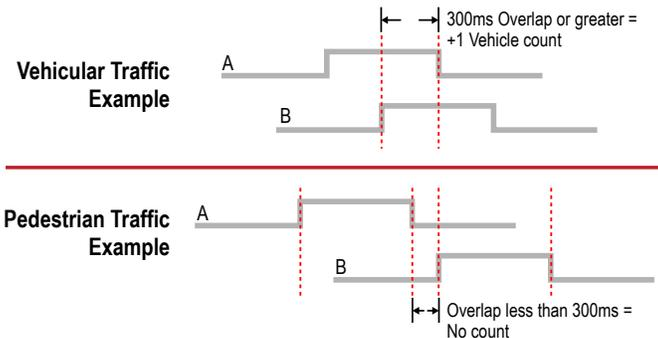

Figure 1-1. Example of overlap filtering
Signal-Tech’s Overhead Sensors use infrared scanning to count vehicles. Their precise optical sensor measures its field of view upon initial power up. When something in its field of view changes, the relay output is triggered until its field of view is returned to its original state. The DZ Counter uses bidirectional A/B logic to count vehicles and determine the direction of travel. Overlap filtering (refer to Figure 1-1) is used to differentiate between vehicular and pedestrian traffic by measuring the amount of time the source (A) and destination (B) sensors are concurrently tripped. Traffic with an overlap of 300 milliseconds (ms) or longer is considered vehicular traffic and counted as a +1 vehicle count. Traffic under 300ms is considered pedestrian foot traffic and is not counted. The DZ Counter records the counts resulting from Overhead Sensor activity.